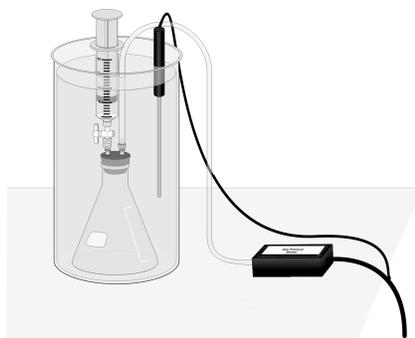

Figure 3
In this experiment, you will study the relationship between the volume of a gas sample and its absolute temperature. Using the apparatus shown in Figure 3, you will place an Erlenmeyer flask containing an air sample in a water bath and you will vary the temperature of the water bath. Keep some of these factors in mind as you plan your procedure.
11. Assemble the apparatus shown in Figure 3. Be sure all fittings are air-tight. Make sure the rubber stopper and flask neck are dry, then twist and push hard on the rubber stopper to ensure a tight fit. Be sure the water level is at least as high as the confined air in the syringe.